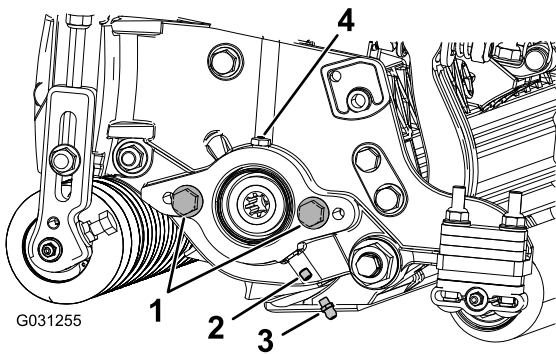

Figure 4
1. Remove and discard the setscrew on the reel-motor side plate (Figure 4).
2. Install the straight grease fitting (Figure 4).
2. If there are no cap screws on the reel-motor side plate, install them (Figure 4).
3. Install the O-ring on the reel motor (Figure 4).